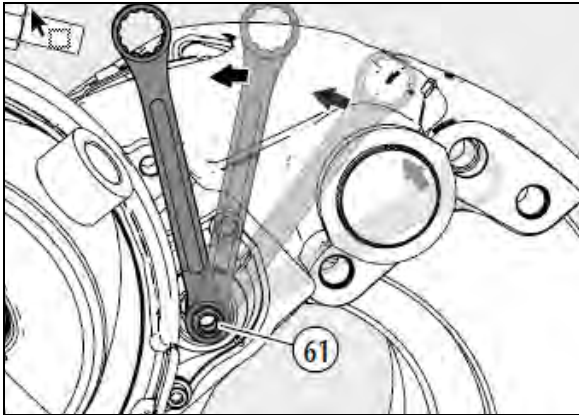

FIGURE 43: TURN ADAPTER 3 CLICKS ANTICLOCKWISE
14. Turn the adjuster with adapter (61) **3 clicks** anticlockwise (increasing the air gap) (see Figure 43).